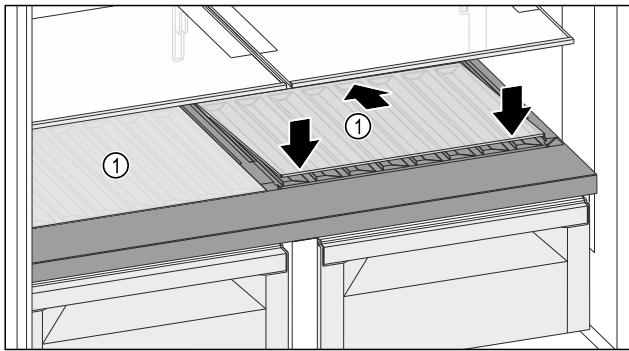

Fig. 115
- ▶ Place the glass shelf Fig. 115 (1) at an angle, sloping it downwards and backwards.
- ▶ Lower the glass shelf Fig. 115 (1) at the front.